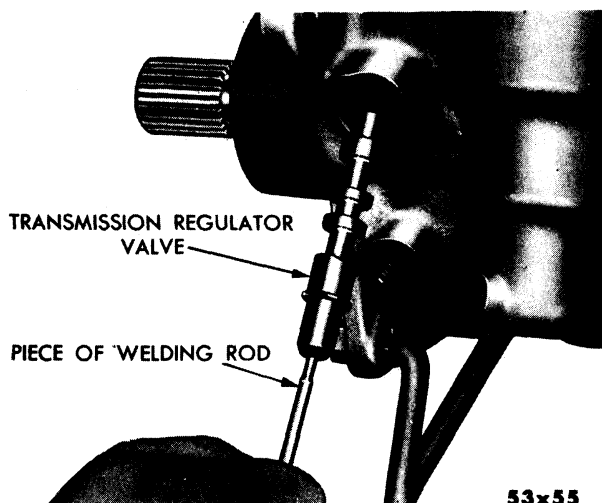

Fig. 48—Removal of Transmission Regulator Valve
- (2) Using a mechanical retriever or a piece of welding rod inserted in end of valve, remove valve, as shown in Figure 48.